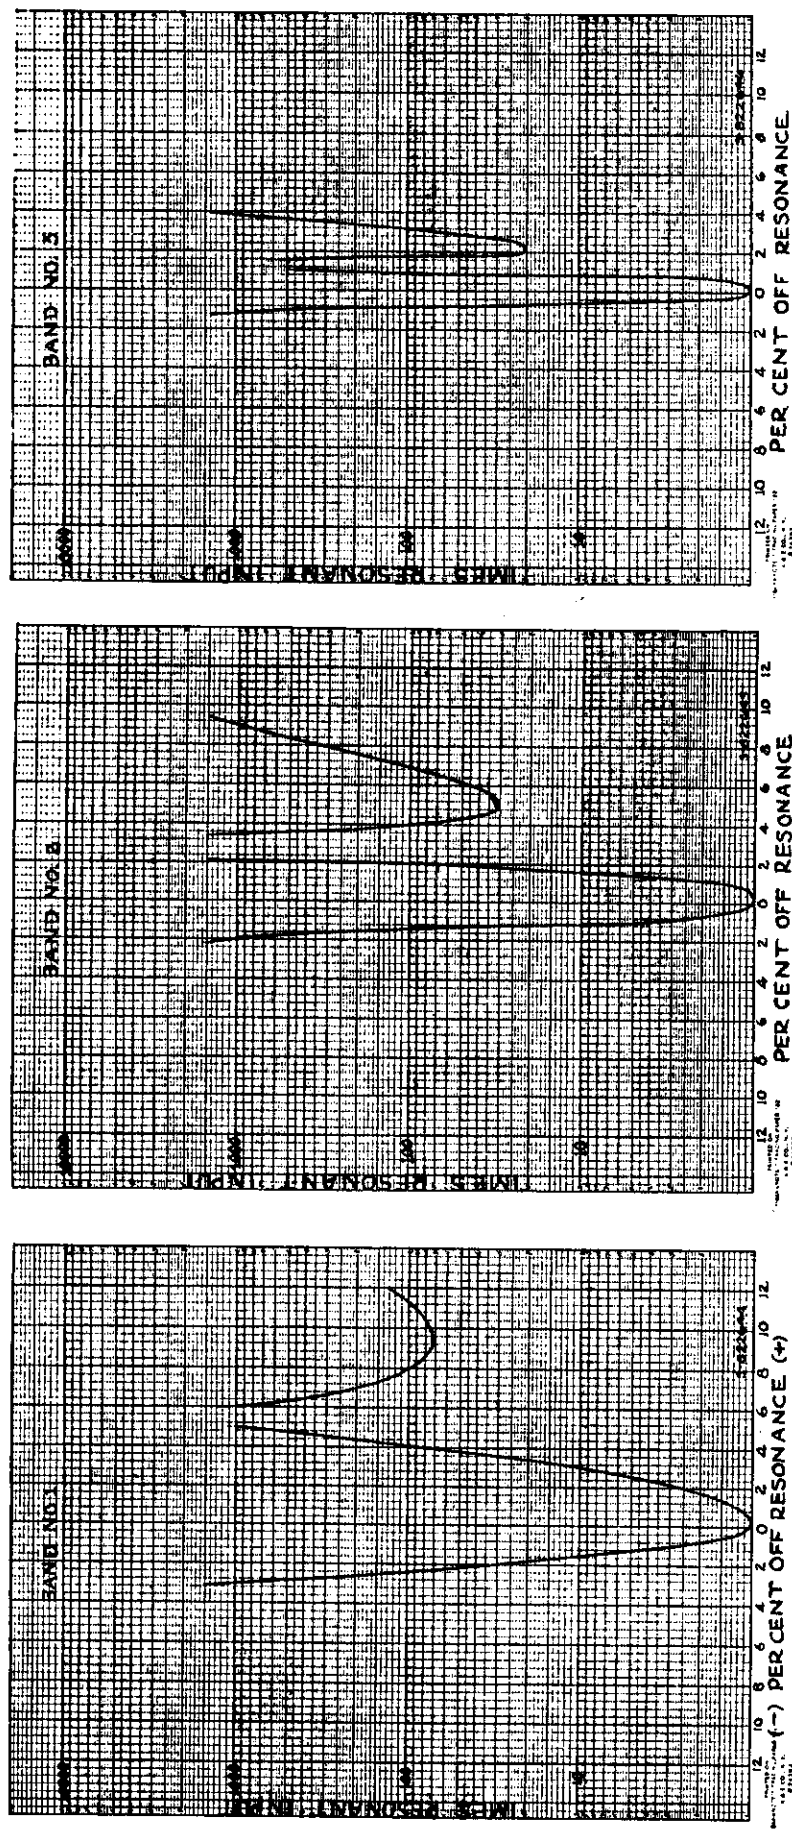

Figure 10—Average Selectivity Curve—CW Interference—Bands 1, 2 and 3
11.3-1 Figure 10 shows CW selectivity characteristics for bands 1, 2, and 3. The curves correspond closely with actual conditions at the middle of the band and represent an average for the band. These data are taken by first adjusting the receiver as for sensitivity measurements (par. 11.1) with 6 mw. output at resonance. The input (CW) signal frequency is then varied and the ratios of input off resonance (required to produce 6 mw. output) to the normal (resonant) input is noted. The break in the curve denotes the point where the signal is at zero beat with the autodyne detector.